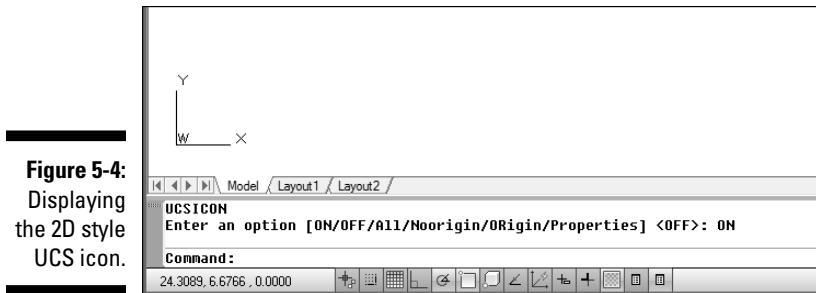

Figure 5-4:
- ✓ **Check the UCS icon.** The UCS (for User Coordinate System) icon is the symbol at the lower-left corner of the drawing area. The model space icon takes the shape of two lines at right angles to each other, with the letters indicating the direction of the X-axis and the Y-axis (the W stands for the World Coordinate System). The paper space icon is triangular, and the closed, three-sided shape represents a flat plane. If you don't see such a symbol, type **UCSICON** and press Enter; then type either **ON** to display the UCS icon in the lower-left corner of the display, or **OR** to display it at the drawings origin (that is, 0,0 coordinates), as shown in Figure 5-4. I explain more about user coordinate systems in Chapter 7.
Figure 5-4 shows the 2D UCS icon. By default, AutoCAD displays the 3D UCS icon, even when you're working in the 2D Drafting & Annotation workspace. You can switch to the 2D style, adjust the icon size, and tell AutoCAD to display the icon in a single color by clicking **UCS Icon**, **Properties** on the **Coordinates** panel of the Ribbon's **View** tab and adjusting the settings in the **UCS Icon** dialog box.